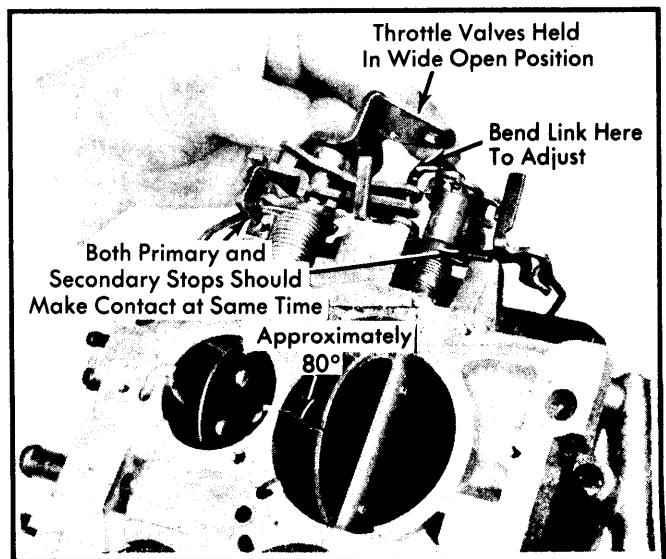

Fig. 2 Adjusting Secondary Throttle Linkage
1) Hold fast idle lever in curb idle position. Turn carburetor upside down. Open throttle valves wide open. See Fig. 2.